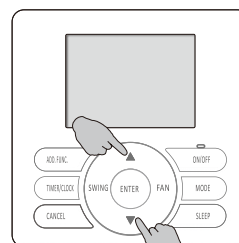

fig.2
2. Press Up or Down button to adjust to the customer-reading parameter code to read. For detailed information, please refer to Table 1. For example, the picture above means that it is a duct indoor unit. (see fig.2)